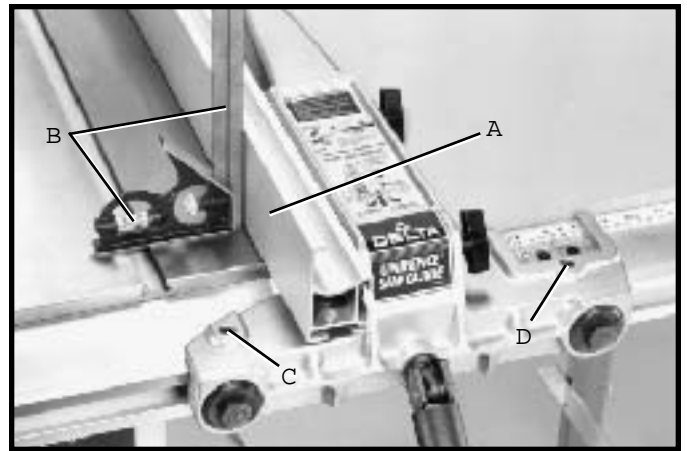

Fig. 98
The fence must be adjusted so that the face of fence (A) Fig. 98, is 90 degrees to the table. To check if the fence is 90 degrees to the table, place a square (B) on the table with one end of the square against the fence, as shown. If an adjustment is necessary, tighten or loosen one of two screws (C) or (D) using the wrench supplied, until the fence is 90 degrees to the table. IMPORTANT: VERY LITTLE MOVEMENT OF THESE SCREWS (C) AND (D) IS NECESSARY TO MAKE THIS ADJUSTMENT.